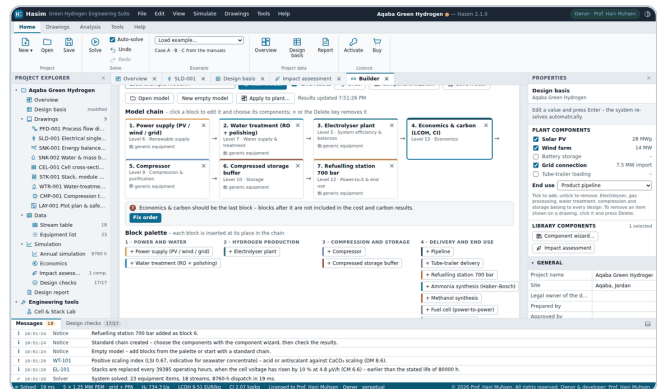

Figure S.10 – Order checks with Fix order.
- 5 The order checks below the chain explain every problem – for example a block before the electrolyser that receives no hydrogen. **Fix order** sorts the chain into flow order (Figure S.10).